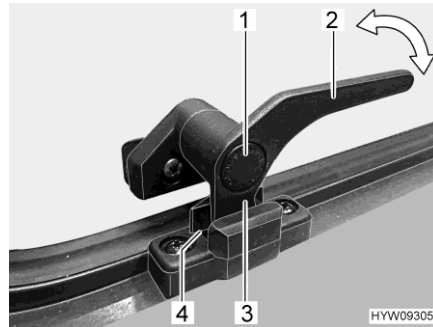

Fig. 23 Catch lever ("continuous ventilation" position)
- "Continuous ventilation" (Fig. 23)
- Press the safety knob (Fig. 23,1) and keep it pressed.
- Turn the catch lever (Fig. 23,3) a quarter turn towards the centre of the window.
- Return the catch lever to its initial position. Move the locking catch (Fig. 23,3) on the catch lever into the recess of the window catch (Fig. 23,4).
- Release the safety knob (Fig. 23,1).